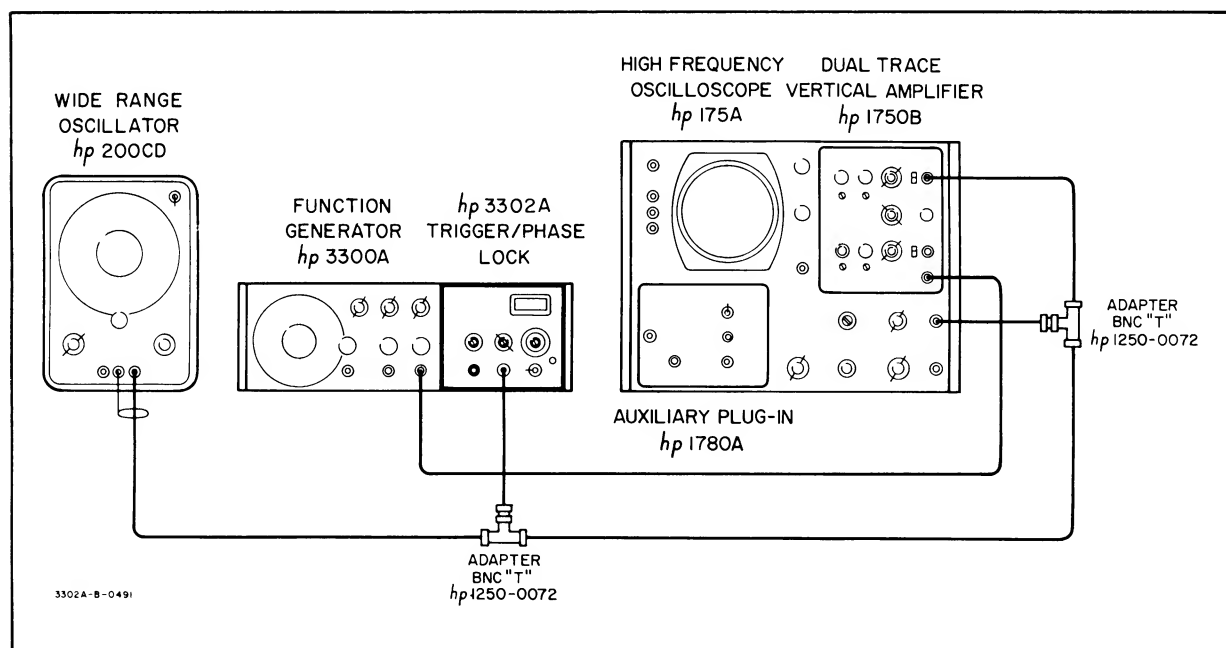

Figure 5-1. Single Cycle, Frequency Dial Check and Adjustments, Phase Lock Dial Adjust, and C28 Adjust Test Setup
- b. Connect instruments as shown in Figure 5-1.
- b. Connect equipment as shown in Figure 5-1.